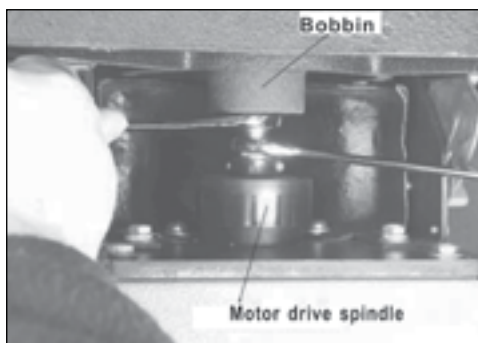

Fig. 5
6.3 Fitting the Bobbin onto the Sander (Fig.5)